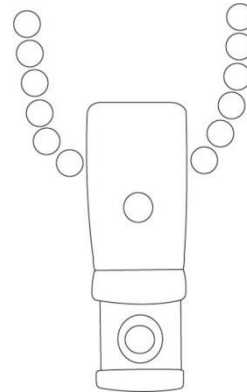

Figure 2
- Carefully align the chain control mechanism with the control bracket (part B) (Figure 2) (this is the one with the cross). Push the blind into the control bracket, ensuring the chain is hanging directly down. Hook into place with a gentle downward motion
2. Install the tension device onto the reveal/frame, making sure that the loop chain hangs with minimal tension (Figure 2)